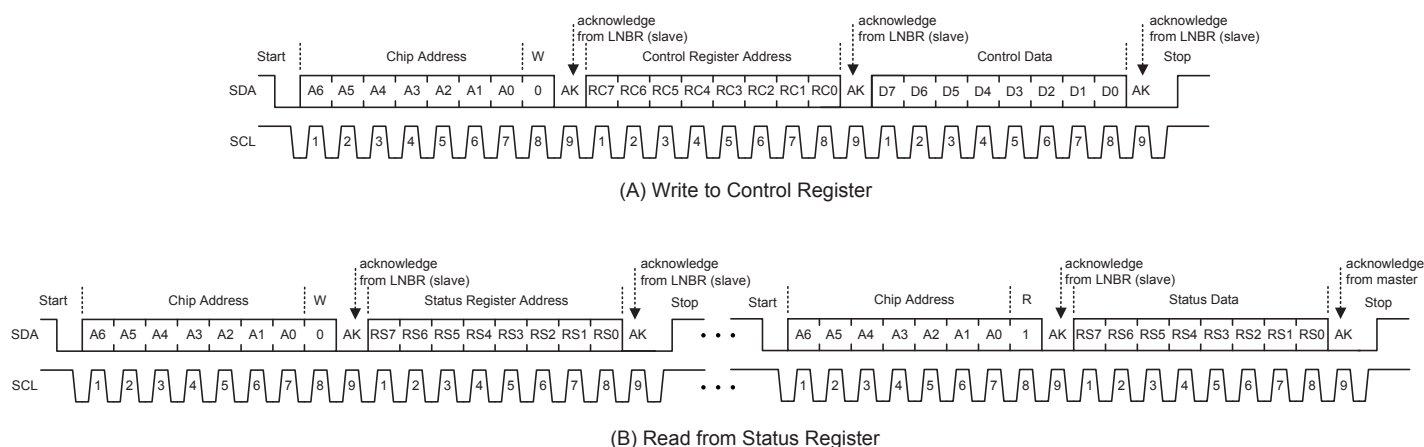

Figure 8. I2C™ Interface Read and Write Sequences. (A) for the I2C™ Write cycle and (B) for the I2C™ Read cycle
**AK Bit During a Write Sequence.** When the master sends control data (writes) to the A8295 there are three instances where AK bits are toggled by the A8295. First, the A8295 uses the AK bit to indicate reception of a valid seven-bit chip address plus a read/write bit (R/W=0 for write). Second, the A8295 uses the AK bit to indicate reception of a valid eight-bit Control register address. Third, the A8295 uses the AK bit to indicate reception of eight bits of control data. This protocol is shown in figure 8(A).
**AK Bit During a Read Sequence.** When the master reads status data from the A8295 there are four instances where AK bits are sent—three sent by the A8295 and one sent by the master. First, the A8295 uses the AK bit to indicate reception of a valid seven-bit chip address plus a read/write bit (R/W=0 for write). Second, the A8295 uses the AK bit to indicate reception of a valid eight-bit status register address. Third, the A8295 uses the AK bit to indicate reception of a valid seven-bit chip address plus a read/write bit (R/W=1 for read). Finally, the master uses the AK bit to indicate receiving eight bits of status data from the A8295. This protocol is shown in figure 8(B).
**I2C™ Start and Stop Conditions.** The I2C™ Start condition is defined by a negative edge on the SDA line while SCL is high. Conversely, the Stop condition is defined by a positive edge on the SDA line while SCL is high. The Start and Stop conditions are shown in figure 8. It is possible for the Start or Stop condition to occur at any time during a data transfer. If either a Start or Stop condition is encountered during a data transfer, the A8295 will respond by resetting the data transfer sequence.
**I2C™ Write Cycle Description.** Writing to the A8295 Control register requires transmission of a total of 27 bits—three 8-bit bytes of data plus an Acknowledge bit after each byte. Writing to the A8295 Control register is shown in figure 8(A). Writing to the A8295 Control register requires a chip address with R/W=0, a Control register address, and the control data, as follows:
**I2C™ Read Cycle Description.** Reading from the A8295 Status register requires transmission of a total of 36 bits—four 8-bit bytes of data plus an Acknowledge bit after each byte. Reading the A8295 Status register requires a chip address with R/W=1, a Status register address, an I2C™ Stop condition, an I2C™ Start condition, a “repeated” chip address with R/W=1, and finally the status data from the A8295. Reading from the A8295 Status register is shown in figure 8(B).